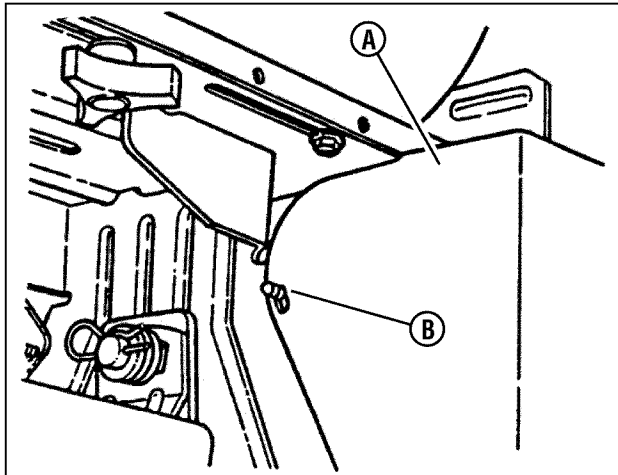
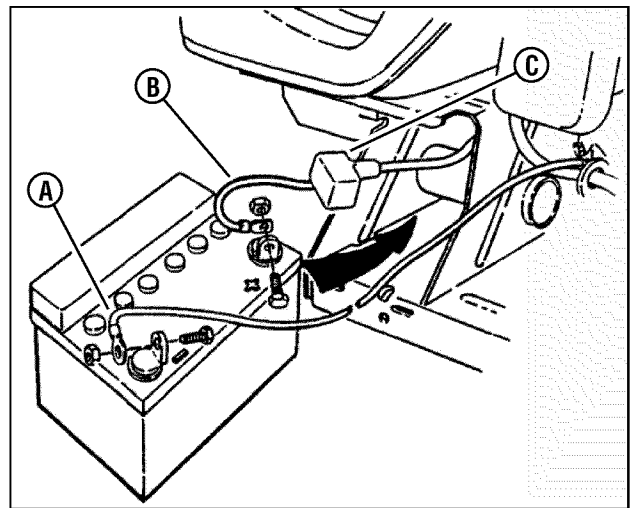

Figure 48: Removing the battery cover
Figure 49: Connecting the battery
1. Carefully pull each side of the battery cover (A, Figure 48) away from the ratchet fasteners (B) and remove the cover.
4. Observe and note the cable positions (A and B, Figure 49) on the battery.
5. Disconnect the cables from the battery terminals, disconnecting BLACK (Negative) cable (A) first. Retain the mounting bolts and nuts.
2. Connect the red positive (+) cable (B, Figure 49) first, from the wiring harness to the positive terminal (+) on the battery, using the bolt and nut provided in the hardware bag. Connect the black negative (-) cable (A) last, to the negative terminal (-) on the battery, using the bolt and nut. Apply a small amount of grease over the terminals to prevent corrosion.
3. Reinstall the positive terminal insulator (C).
5. Reinstall the battery cover (A, Figure 48).
10. Connect the red positive (+) cable (**B, Figure 49**) first, from the wiring harness to the positive terminal (+) on the battery, using the bolt and nut provided in the hardware bag. Connect the black negative (-) cable (**A**) last, to the negative terminal (-) on the battery, using the bolt and nut. Apply a small amount of grease over the terminals to prevent corrosion.
12. Reinstall the battery cover (**A, Figure 48**).